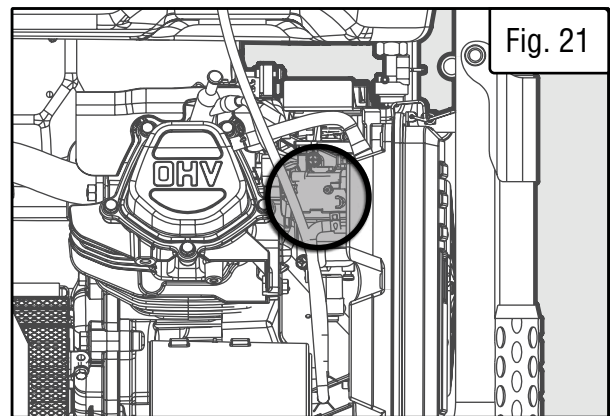

Fig. 21
2. The carburetor can be accessed from the backside of the generator between the engine and air filter. To drain the carburetor, open up the carburetor drain screw (Fig. 21) with a Phillips-head screwdriver and drain out any gasoline that has built up inside.